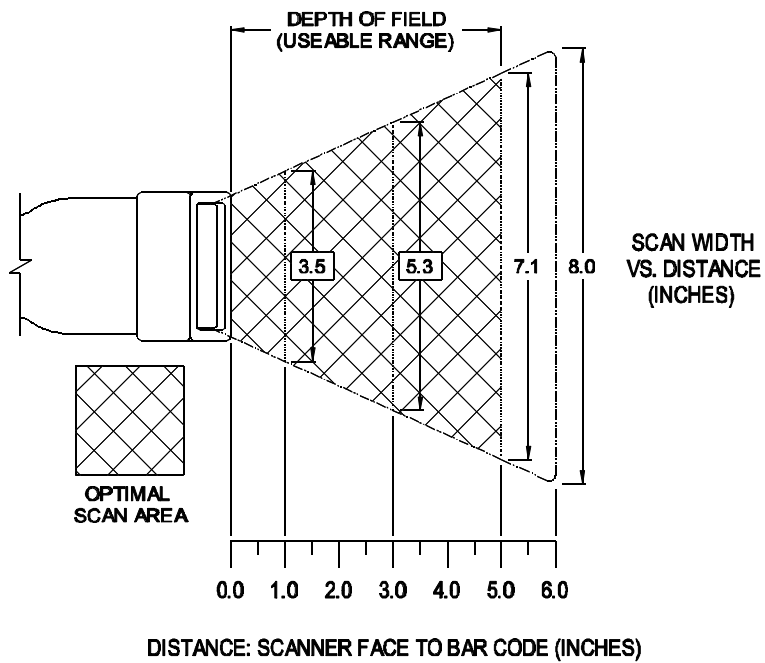

Figure 4
The depth of field for the scanner is from the face of the output window to five (5) inches (Refer to Figure 4). If the scanner is in the stand, a bar code must be presented to the scanner. When holding the scanner, position the output window within five inches of the bar code.